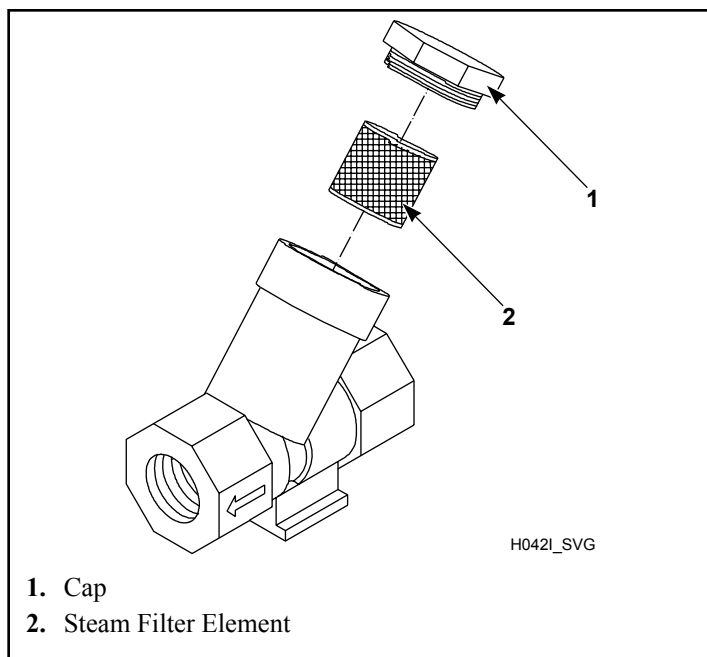

Figure 52
3. If applicable, clean the customer-supplied steam filter. Refer to *Figure 52*.